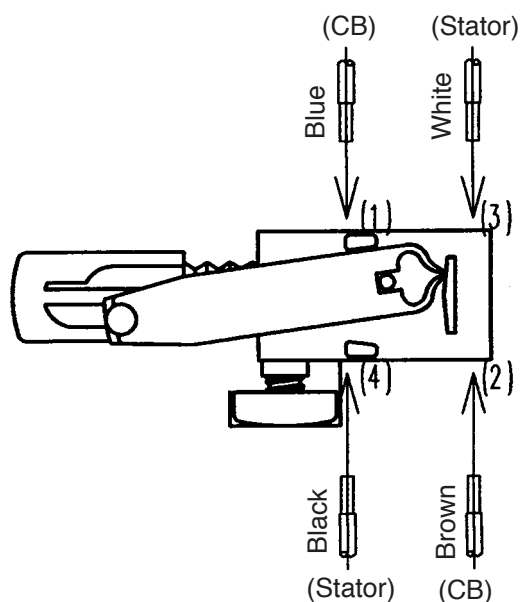

Fig. 26
(1) Wiring of reversing switch
Insert the lead wire (black) coming from the stator into the terminal (4) of the reversing switch, and the lead wire (white) into the terminal (3) as shown in Fig. 26.